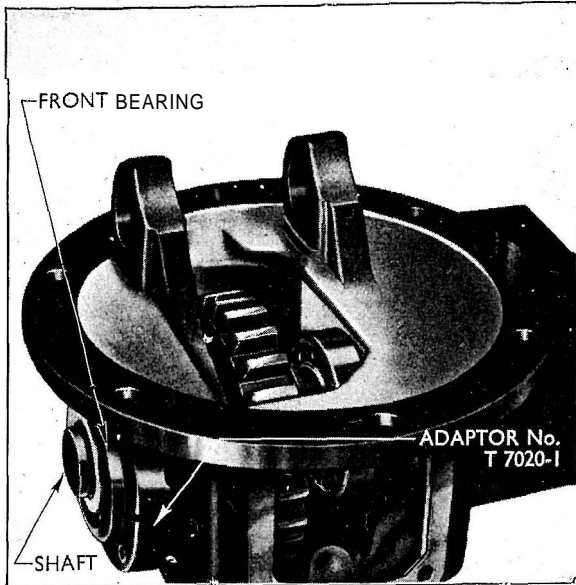

Fig. 3
2. Detach the front bearing end plate and remove the front bearing retaining circlip. Support the P.T.O. driven gear and tap the shaft into the housing from the rear to expose the front bearing. Fit the two adaptors (T-7020-1) behind the front bearing so that the spring loaded plungers locate in the end plate bolt holes (See Fig. 3). Using a suitable sized drift, drive the shaft, bearing and oil seal out through the rear of the housing. Care should be taken when driving out the rear bearing not to damage the bearing surfaces. Lift out the P.T.O. driven gear.